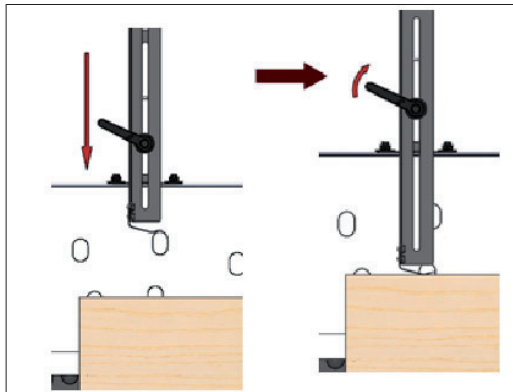

Fig 5
- Adjust the appropriate length for work piece and fasten with adjustable handle. (Fig 5)